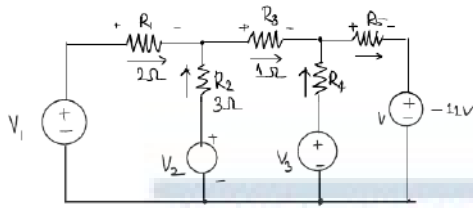

Figure 5: Figure for question 13 (a).
13. (a) Find the power delivered by the independent voltage sources in the network shown in Fig. 5 by loop analysis (use graph theory). Prepare the network graph using the reference directions marked in the figure. (8)
- (b) A connected network has the fundamental circuit matrix given as, (6)